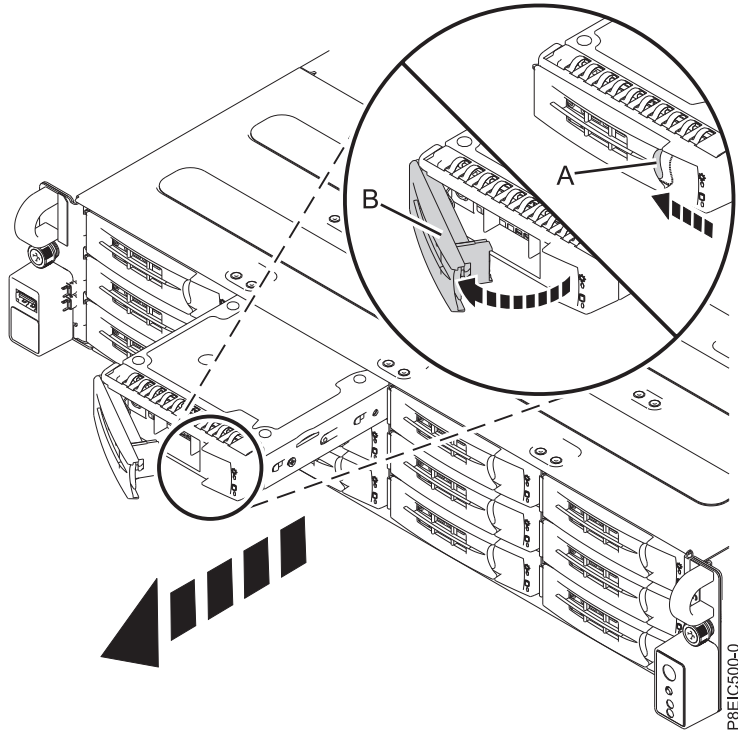

Figure 53. Removing a front drive tray
4. Unlock the drive tray handle by pushing the handle release (**A**) in the direction shown. The handle (**B**) snaps out towards you. If the handle does not snap out all the way, the drive tray does not slide out of the system, as shown in Figure 53 on page 77.